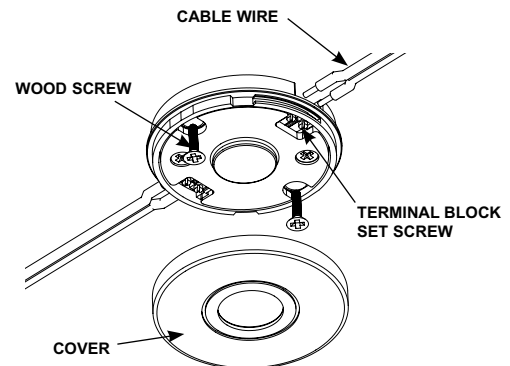

Figure 1
Step 3. To surface mount fixture use the template (Fig. 3) to drill two pilot holes for the wood screws before attaching the fixture to mounting surface (Fig. 1.) For a typical under-kitchen cabinet installation, it is recommended to space fixtures 9" to 9-1/2" from back wall to fixture center for even illumination of counter and backsplash. Wiring from transformer to fixture, and fixture to fixture can be handled two ways. **Option-1:** wiring exposed on the underside of the cabinet (Fig 1). When using option-1 with exposed wiring, it may be easier to wire fixtures before they are installed to mounting surface. Mark the center points of fixtures on mounting surface and drill mounting pilot holes (Fig 3). Take your fixture center-to-center measurement. By subtracting 2" from this dimension, you will have the wire length required to connect fixtures together (refer to wiring diagram). **Option-2:** bring wires in from above fixture mounting surface (Fig 2). When using option-2 use the template (Fig 3) to drill two holes for wiring to pass through mounting surface (Fig 2). For optimal, even illumination, it is recommended to space fixtures 18" apart. However, fixture spacing less than or more than 18" will still provide high-quality lighting performance.
Step 5. Secondary wiring is not polarized. After inserting leads into terminal, tighten terminal block set screws securely to retain wires to 4-in-lb minimum (Fig. 1.) Make certain no bare conductors are exposed after attachment to terminals.